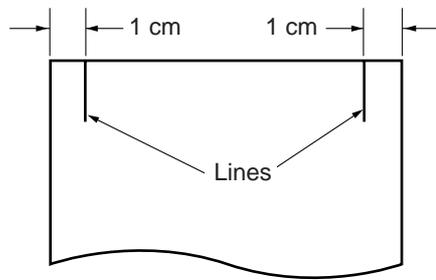

Figure 2-11
- 1) Draw lines 10 mm from each edge of a piece of copy paper (A3), as shown in Figure 2-11.